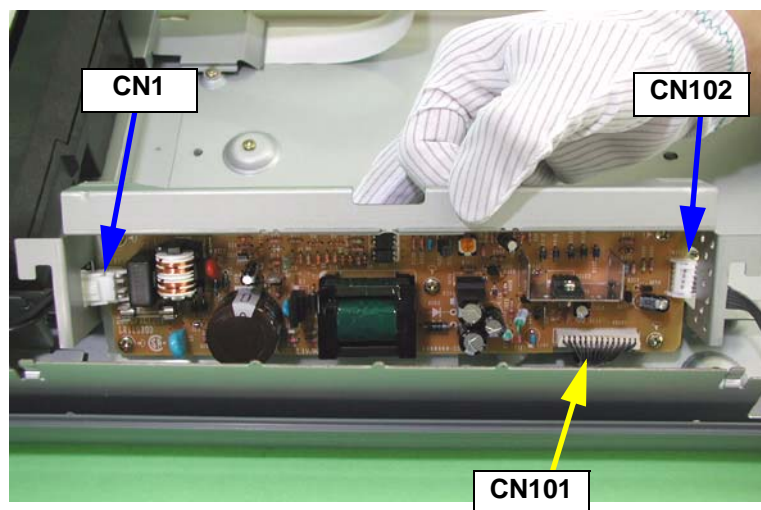

Figure 4-32. Power Supply Circuit Board Removal (3)
6. Disconnect the lock-type AC adapter connector (CN1), SUB_A circuit board connector (CN102) and main circuit board connector (CN101). (See Figure 4-32)